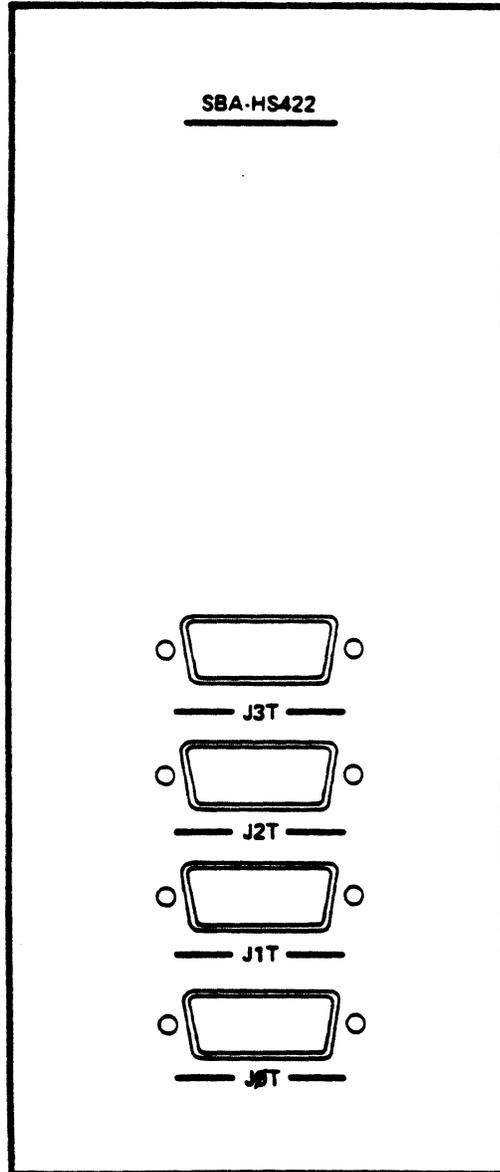

Figure 3-22 Connectors on the SBA-HS422 Assembly
All of the lines indicated in the CCITT Recommendation X.21 specification are fully implemented, with the exception of the optional byte timing line (B). An additional clock line (ST) has been implemented. The connectors are 15-pin, male D-connectors (X.21 DTE-type). Cables compatible with these connectors must be supplied by the customer; the connectors are illustrated in Figure 3-22. Table 3-33 lists the serial device connector pin assignments for this module.